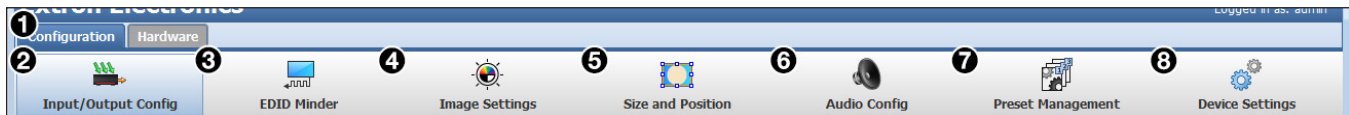

Figure 58. Global Navigation Bar - Configuration
The internal web pages open with two main tabs: **Configuration** (see figure 58, ①, on page 88) and **Hardware** (see figure 81, ①, on page 117). Below the tabs is a global navigation bar with icons that open various pages for configuration settings and information.
Click the **Input/Output Config** icon on the **Global Navigation Bar** (see figure 58, ②) to open this page. It contains panels for input configuration and output configuration.
EDID Minder is a management process that manages the EDID information between the scaler and one or more input sources. Click the **EDID Minder** icon (see figure 58, ③, on page 88) on the Global Navigation Bar to open the EDID Minder page.
The **Image Settings** page adjusts signal sampling and picture control settings, saves and recalls user and input presets, and applies overscan settings. Click the **Image Settings** icon (see figure 58, ④, on page 88) on the **Global Navigation Bar** to open the **Image settings** page.